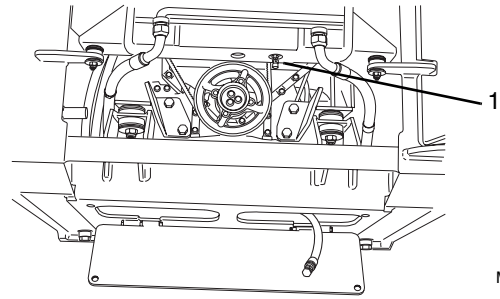

Figure 10-43 Radiator Drain Valve
14. Ensure the radiator drain valve (Fig. 10-43, 1) is securely closed.